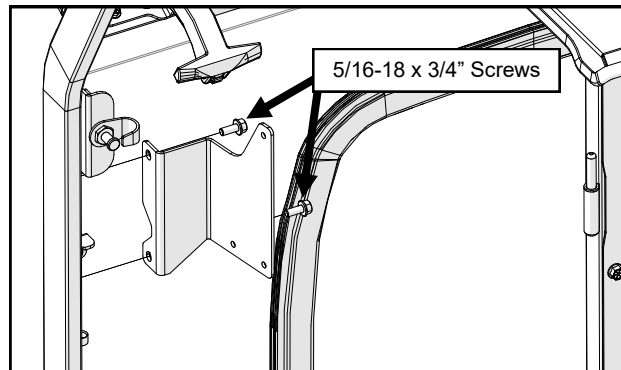

Fig. 19.1 (Install Heater Bracket to A-Pillar)
- 19.1 Slide the heater bracket between the harness and left side frame and attach. See Figure 19.1. Tighten hardware.